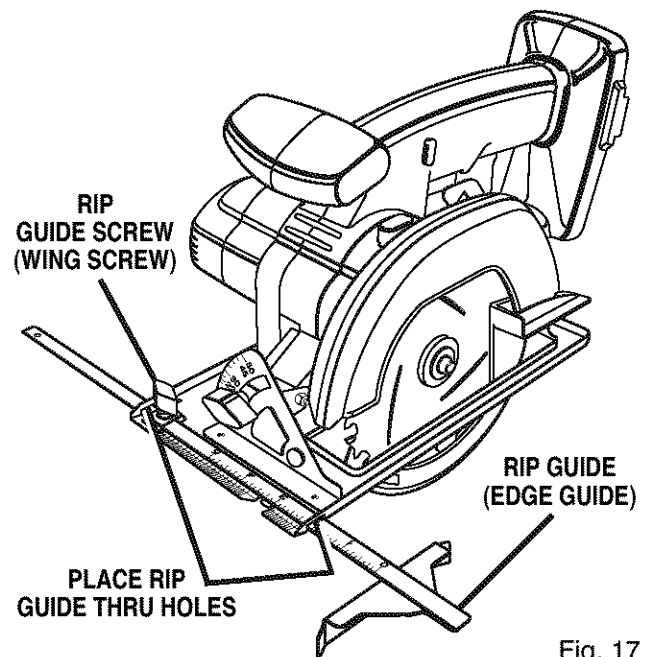

Fig. 17
- Place rip guide through holes in saw base as shown in figure 17.